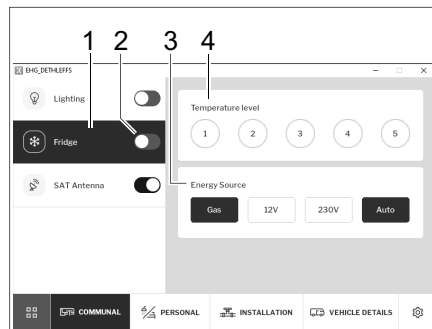

Fig. 271 Refrigerator
- Use the switch to turn the refrigerator (Fig. 271,2) on or off.
- Click on the *Refrigerator* (Fig. 271,1) button. The cooling level (Fig. 271,4) and energy source (Fig. 271,3) can be configured in the control panel.